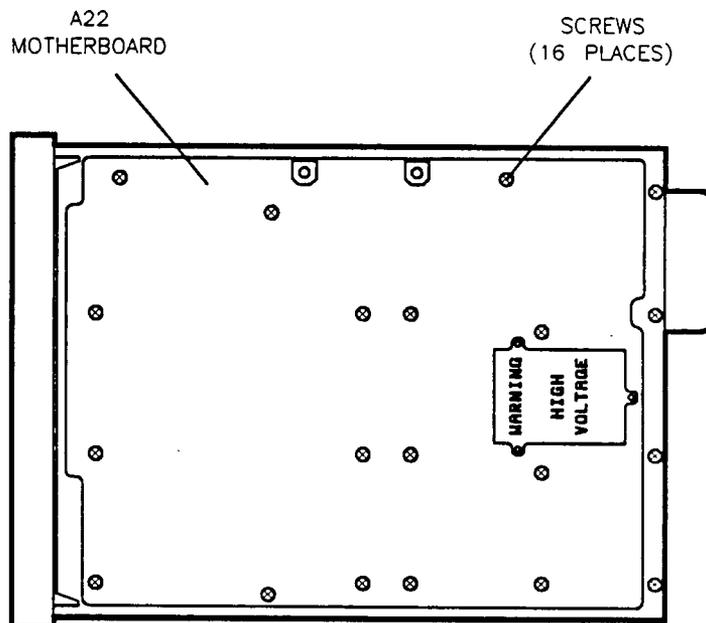

Figure 7-42. Motherboard Screws.
2. Remove the 16 screws from the bottom side of the motherboard bottom side Figure 7-42.